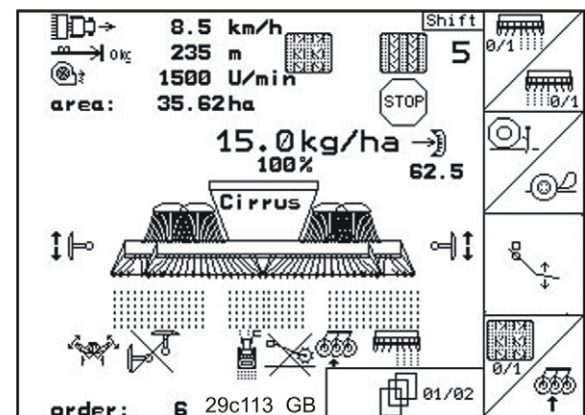

Fig. 244
4. Call the Work menu (Fig. 244) on the **AMATRON⁺**.
5. Press the harrow adjustment button  (Fig. 244).
11. Press the harrow adjustment button (Fig. 244).